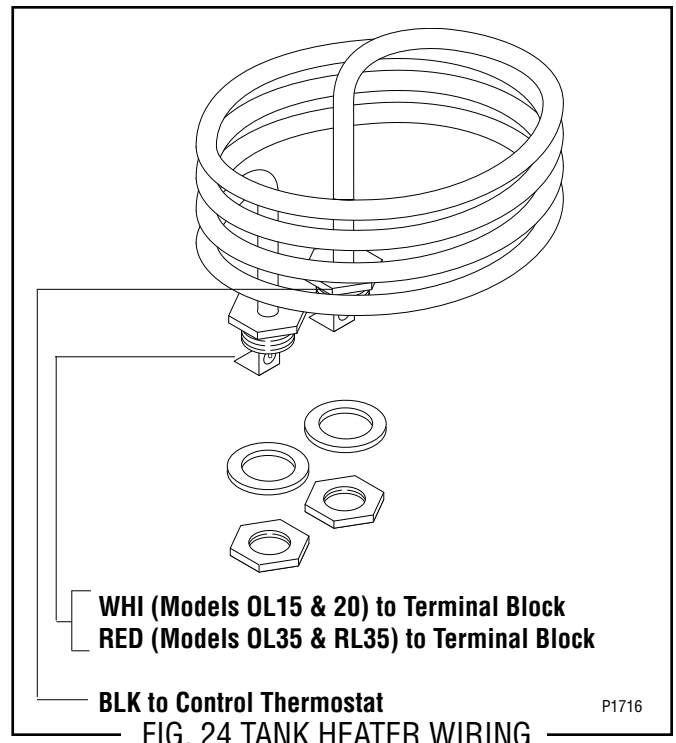

FIG. 24 TANK HEATER WIRING
15. Refer to FIG. 24 when reconnecting the wires.